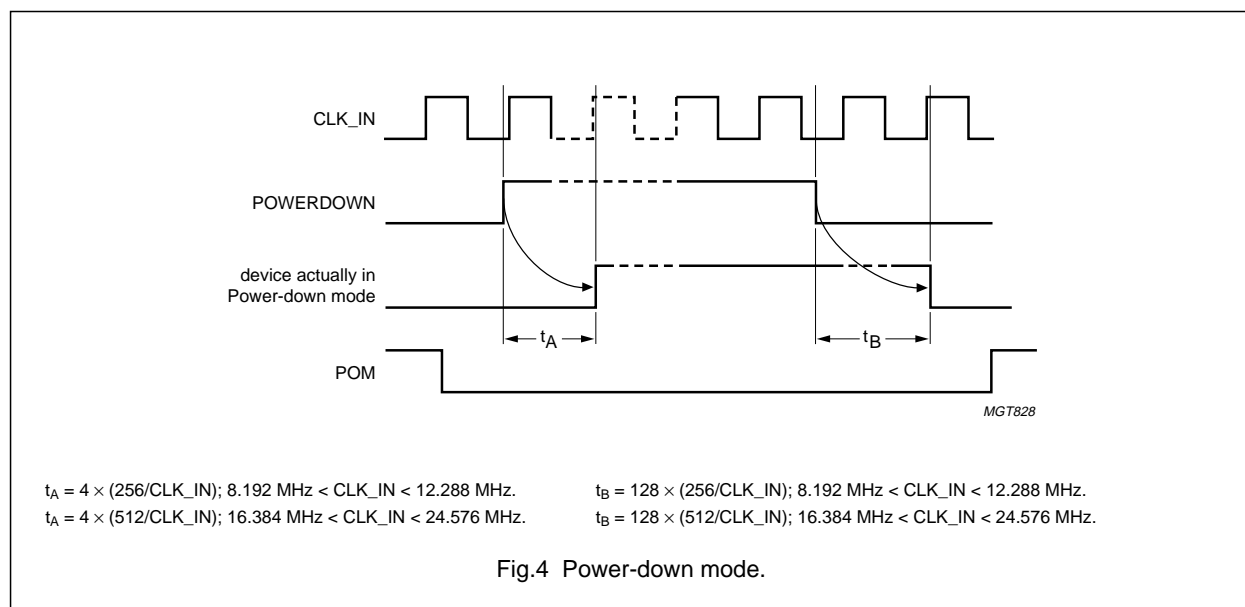

Fig.4 Power-down mode.
- It is advised to set pin POM to logic 0 before switching on the Power-down mode and set it back to logic 1 after the chip actually returns from Power-down mode as shown in Fig.4
Figure 4 shows the time the chip actually is in Power-down mode after switching on/off pin POWERDOWN.